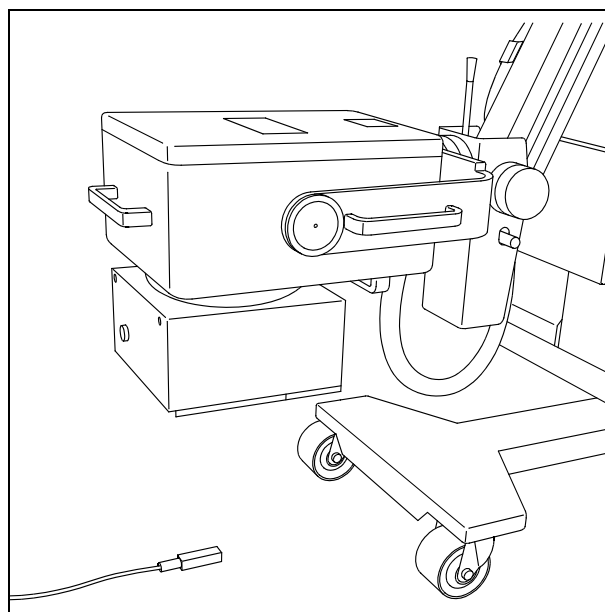

Fig. 1
- Connect radiation detector to the oscilloscope and place it in the beam path of the POLYMOBIL III (see Fig. 1).
- Set an SID of 40 cm and collimate onto the radiation detector with the light localizer (Fig.1).